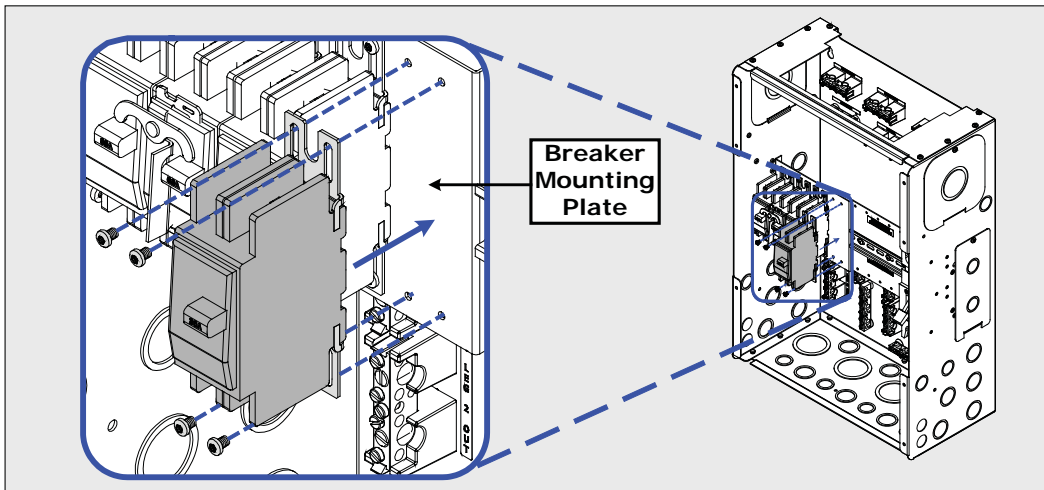

Figure 3, Installing AC Load Breaker Within a MP Single Enclosure
3. While holding the AC breaker against the MP's mounting plate, align the breaker's mounting holes with the enclosure's mounting holes (Figure 3).